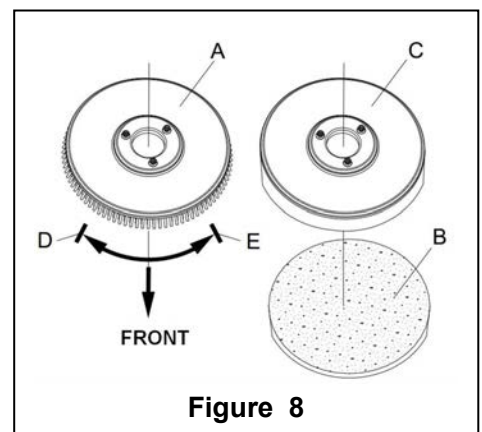

Figure 8
According to the type of floor to be cleaned, the machine may be installed with brush (Figure8, A), or a pad-holder (Figure 8, B and C).
1. (Only applicable to **AS430B** and **AS510B**): make sure the switch (41) is at the disconnecting (O) condition.
2. Press down the handlebar (2) to lift the tank body (26).
3. Put the brush (A) or the pad-holder (B – C) under the case.
4. Use the handlebar (2) to lower the tank body (26) to come into contact with the brush or pad-holder.
5. To install the brush/pad-holder automatically, turn the power switch (41) to the “I” position and press down the safety switch (1). Gently push the machine forward so as to allow the belt wheel at the bottom of the tank body to align with the brush or pad-holder which can then be installed. Then release the safety switch. If necessary, repeat this procedure until the brush/pad-holder is installed.
6. If Step 5 above proves to be difficult, use the manual method by following the arrow head (D) to install the brush/pad-holder (as shown in Figure 8).
7. To automatically unload the brush/pad-holder, turn the power switch (41) to the “O” position. Use the hand to hold the handlebar, and press the machine downwards until the guide wheel touches the floor and the brush/pad-holder hangs in the air. Turn the power switch (41) to the “I” position, and press down the safety switch to let the brush or pad-holder turn until the brush/pad-holder drops to the floor.
8. If Step No. 7 above proves to be difficult, use the manual method by turning the brush/pad-holder in the direction opposite to the normal turning direction, and it can be taken off. (as shown in **Figure 8**)